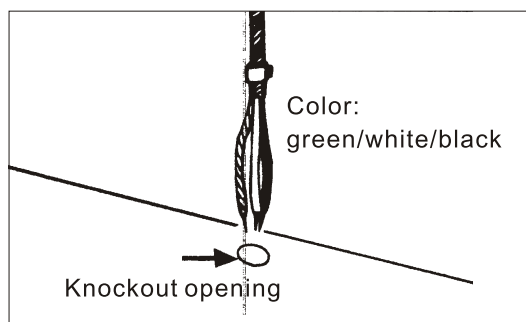

Fig.10
- a. The electrical line is routed through the appropriate Knockout opening. This step will have to be accomplished while positioning the hood (Fig. 10)